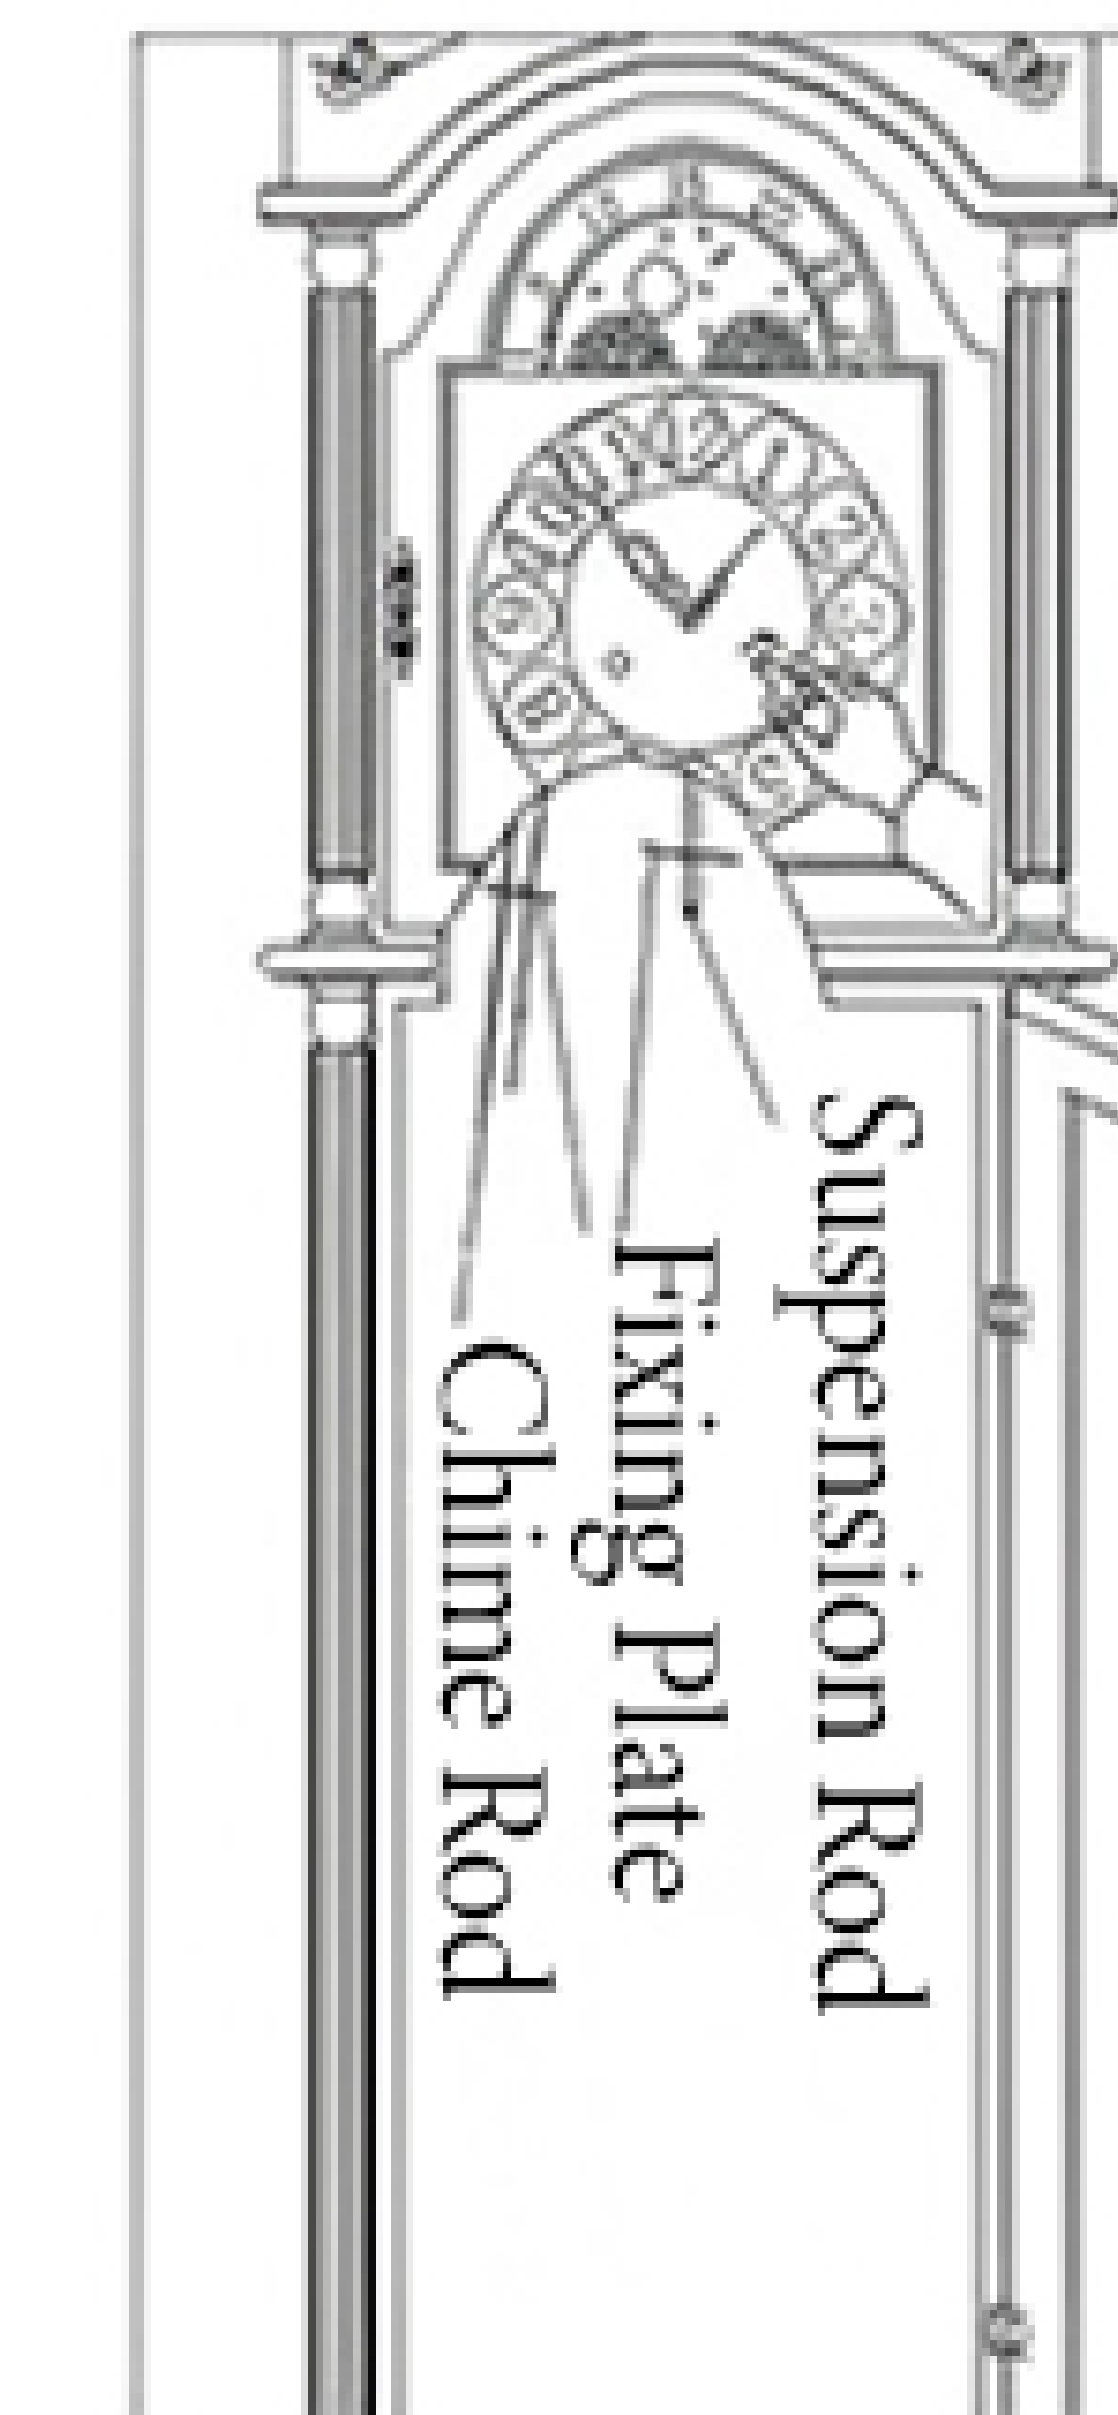

Figure 1
2. Remove all packaging materials securing the movement, gongs and striking hammers, as well as the fixing plates or rubber bands on the pendulum rod (Figure 1).